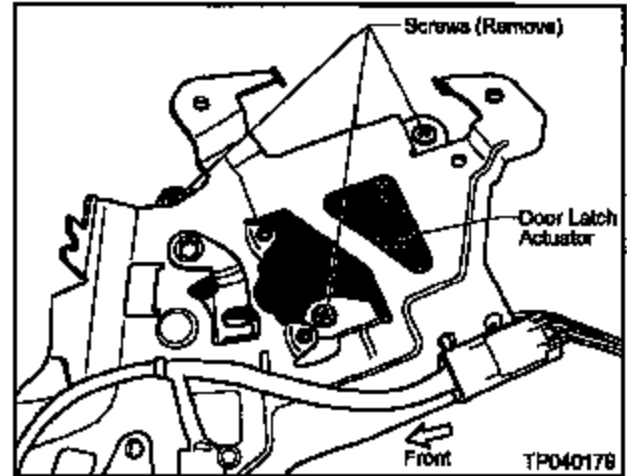

Figure 14
12. Remove the three Screws that secure the Door Latch Actuator to the Latch Assembly (see Figure 14).